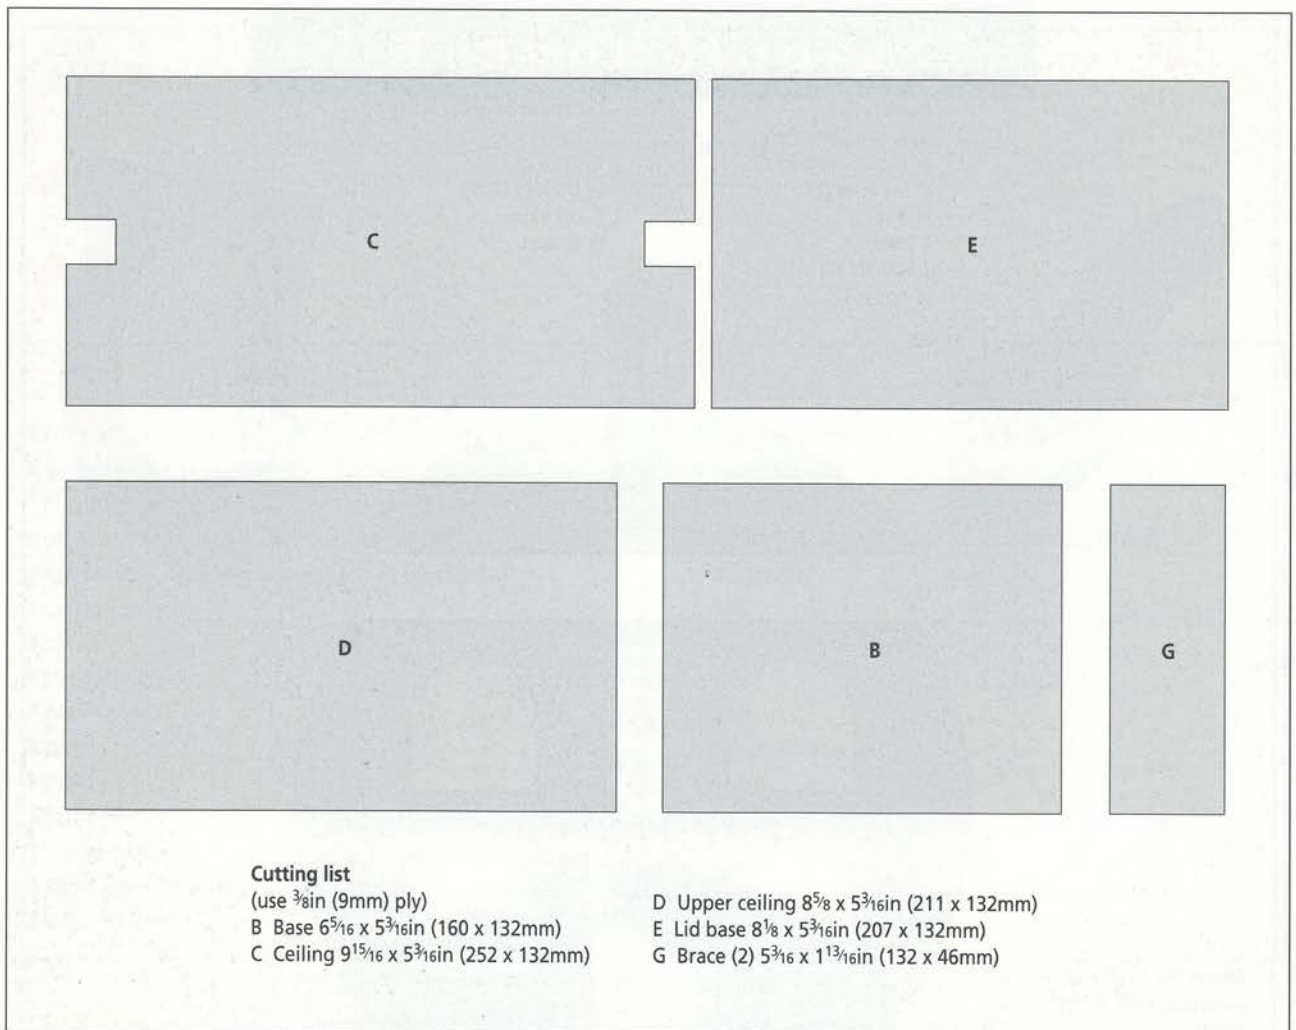

Fig 10.2 Cutting list for B, C, D, E and G.
The dimensions of the remaining parts, except for the ball (H) and stem (I), can easily be marked out on the plywood using a straight edge and a square. The dimensions of B, C, D, E, and G are given in Fig 10.2. Label each part lightly with a pencil.